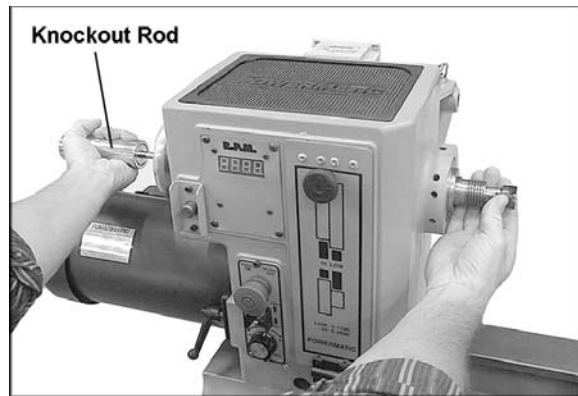

Figure 20
- To *remove* a spur center or live center, first remove the workpiece from the Lathe. Insert the knockout rod (Figure 20) through the hole in the handwheel and firmly tap the tapered end of the spur center. The sliding collar on the knockout rod helps give the necessary impact without having to use a mallet against the end of the rod.